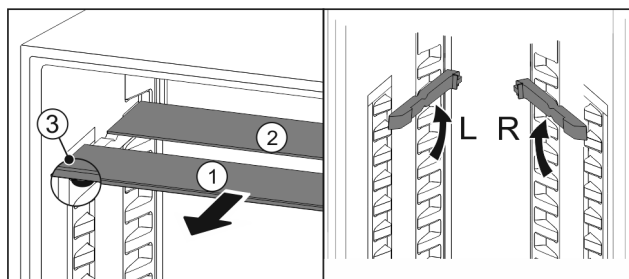

Fig. 86
- Pull the glass panels out Fig. 86 (1) from the front, one at a time.
- ▷ The glass panel Fig. 86 (1) and trim strip are at the front.
- ▷ The stops Fig. 86 (3) point down.